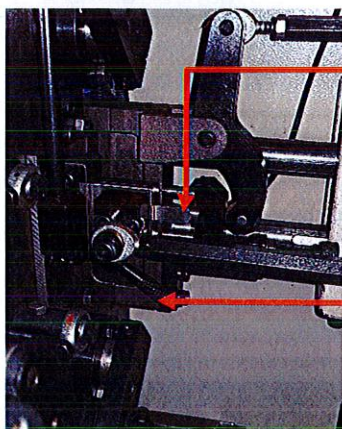

Figure 12: Inside the back of the HIT 8 Machine
- Fit the mandrel from the inside of the machine and lock in place using the locking handle. Figure 12 and 13.